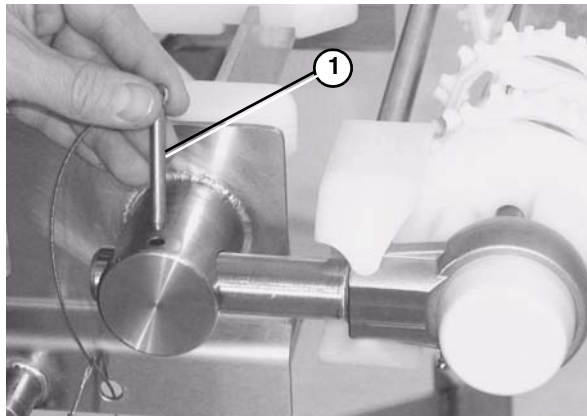

Figure 63
5. Remove the pull pin (**Figure 63, item 1**).
1. Remove the pull pins from take up blocks (**Figure 63**).